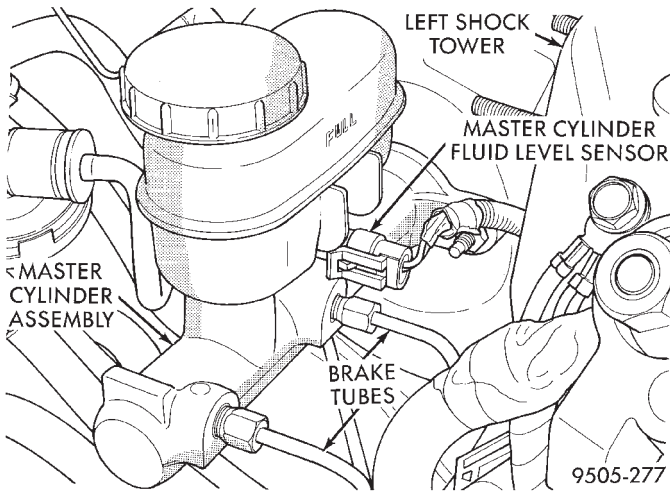

**Fig. 95 Master Cylinder Brake Fluid Level Sensor**
(8) Remove the vehicle's wiring harness connector from the master cylinder brake fluid level sensor (Fig. 95).
(8) Install the vehicle's wiring harness connector on the master cylinder brake fluid level sensor (Fig. 95).